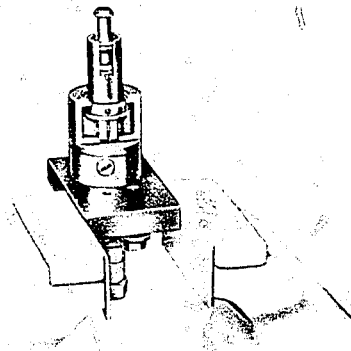

Figure 9
5. Position the two bleeder screws (2) with gaskets (3) and secure firmly.
6. Reset the pump in the vise, having the control sleeve on top. The plunger has one yoke notched. Carefully insert the plunger into the barrel having the notch on the plunger yoke align with the notch on the control sleeve (See Figure 9). Check the plunger in the barrel.